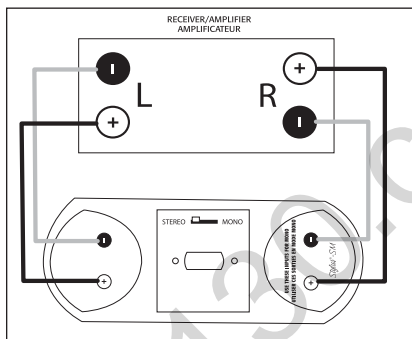

Fig. 5b Wiring for "Left plus Right" sound from a Single Speaker (Stereo Input)
**Stereo Input** (Single Speaker, "left plus right" channel sound) (Fig. 5b)